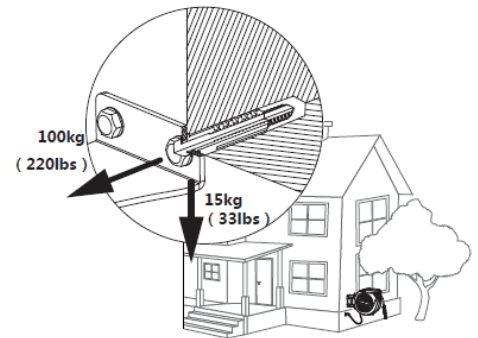

Fig. 2
- It must be strong enough to support the loads shown in Fig. 2.